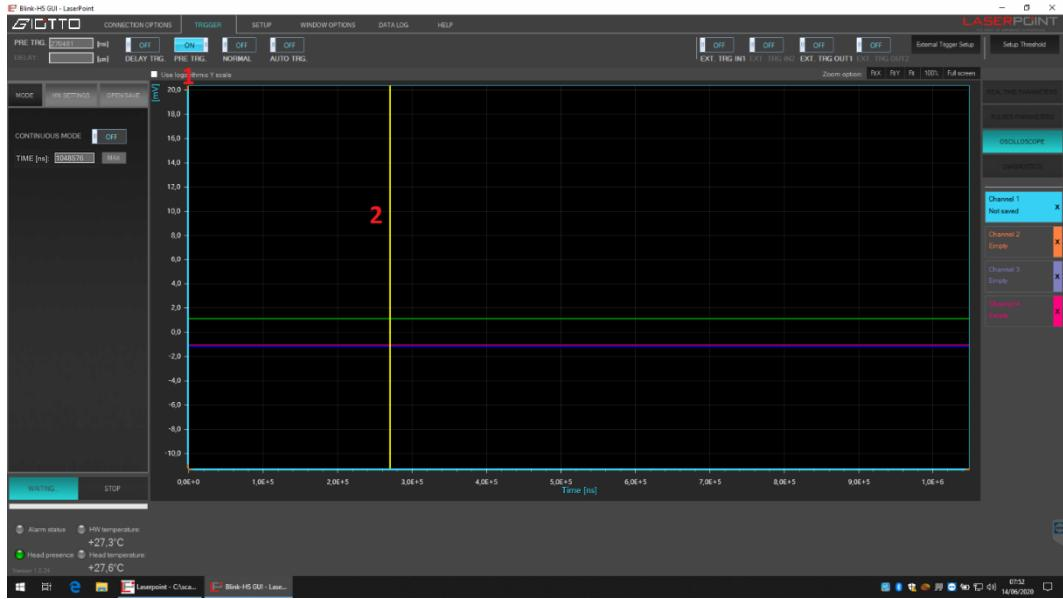

Figure 20
1. In Pre Trigger mode (**1, fig.20**) the HSM meter remains on hold and starts acquisition when pulses are greater than Trigger Start value (in mV), the it will display a pre portion of the spectrum, according from the position of the marker (**2, fig.20**)